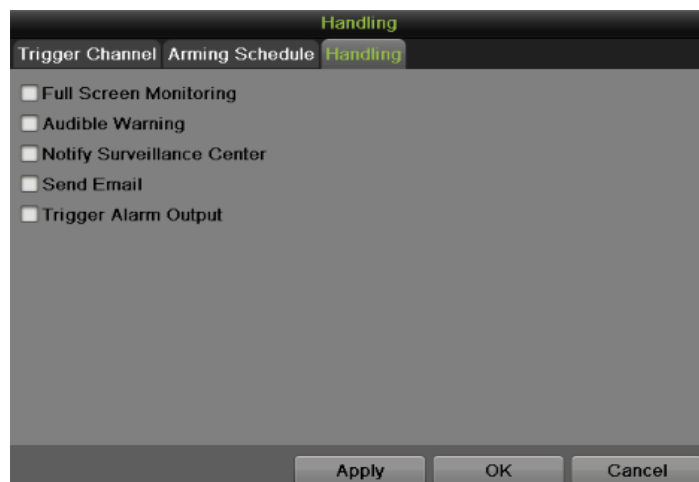

Figure 80 Handling Settings Menu
- 3) Select the Handling tab, as shown in Figure 80.
- 3) Select the Handling tab which is same as Figure 80 to set other actions. Click Apply to save the settings.